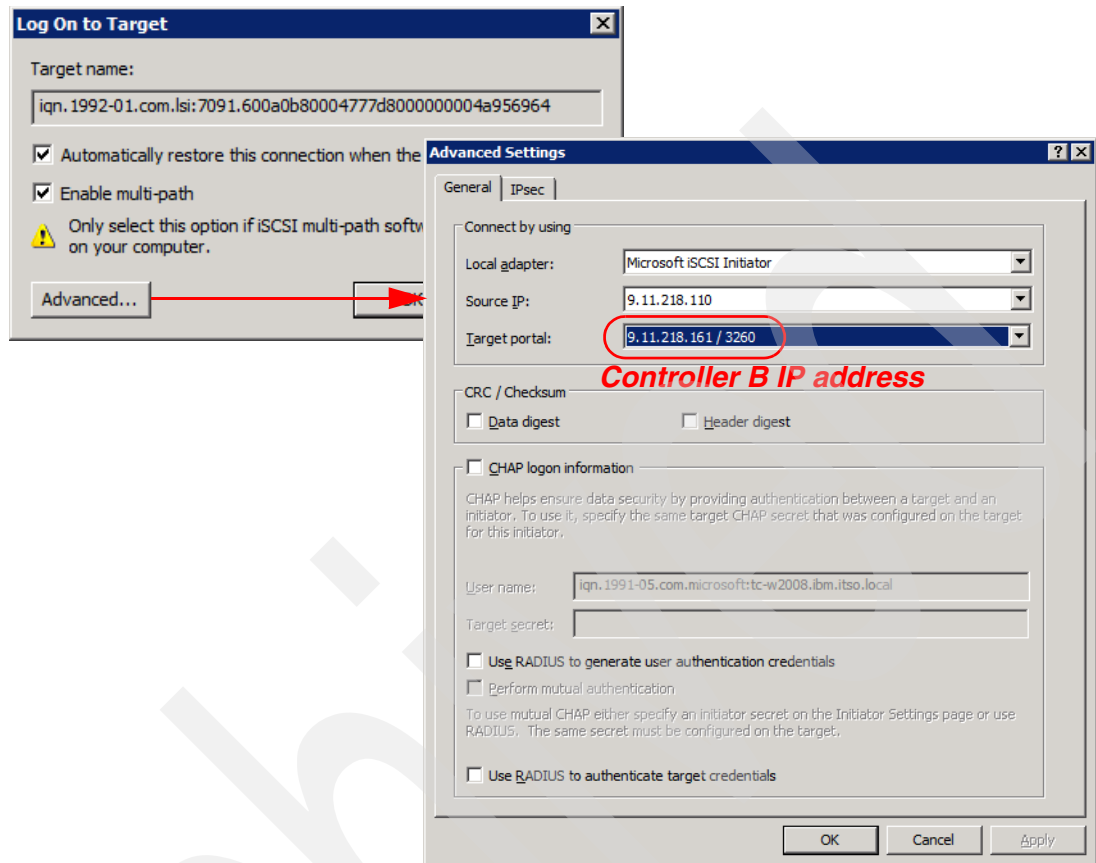

Figure 3-34 Adding second path
10. In the next window, check the multipath option again to automatically restore connections, as shown in Figure 3-34, and click **Advanced**.